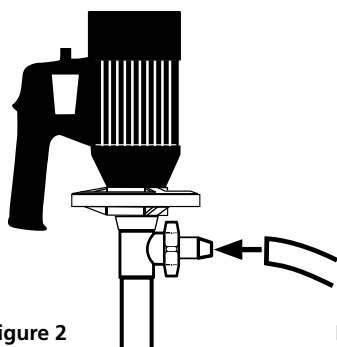

Figure 2
3. Fasten approved hose to the discharge hose barb and hand nozzle (See Figure 2 & 3).